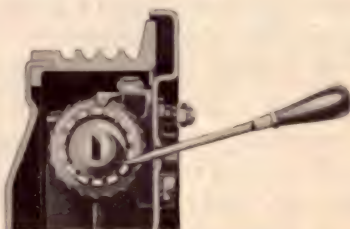

Fig. 50—Adjusting $\frac{1}{2}$ and $\frac{3}{4}$ Ton Brakes
3. Remove the adjusting hole covers and insert a screwdriver through the adjusting hole and engage the teeth on the adjusting cover of the wheel cylinder (fig. 50). Turn the adjusting cover in a clockwise direction looking at the end of the cylinder until the shoes cause a slight drag on the brake drum.